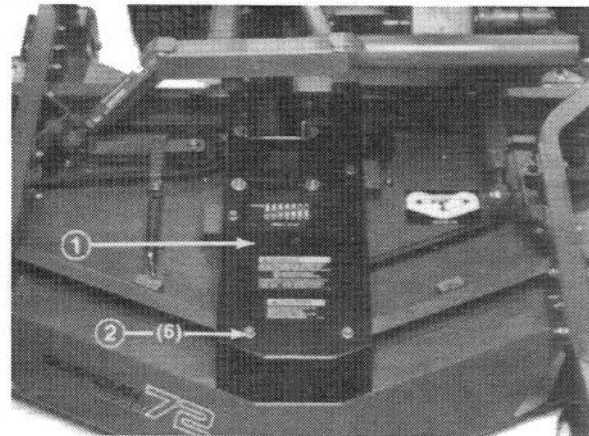

Figure 13
5. Route the new belt around the spindle pulleys and through the idler pulley assembly, as shown in Figure 13.